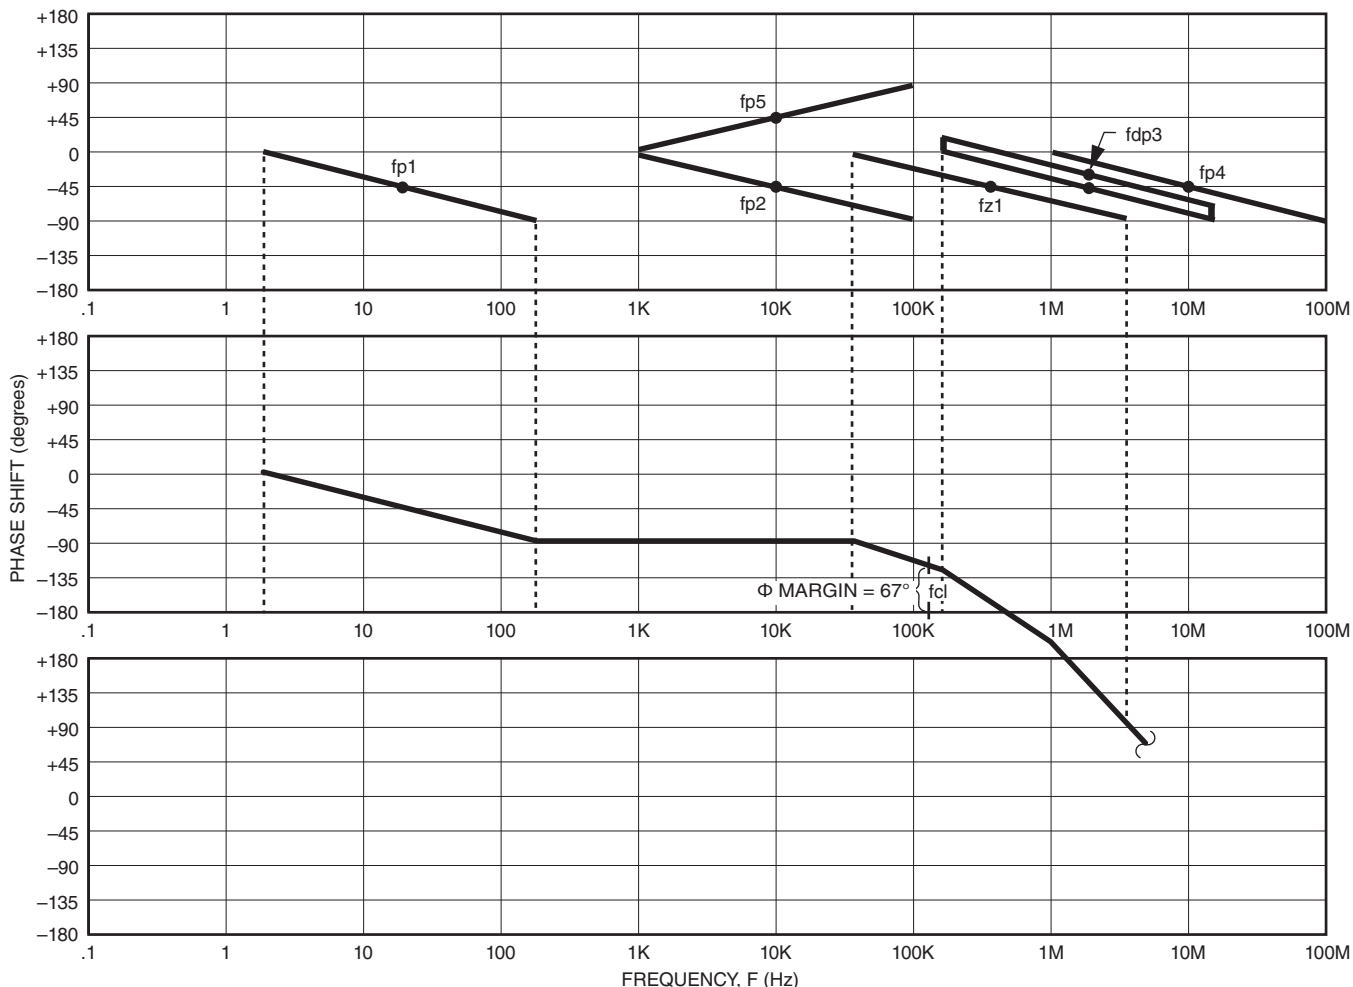

FIGURE 28. FEEDBACK ZERO COMPENSATION FOR CL OPEN LOOP PHASE PLOT FOR STABILITY
**STEP 4:** Plot open loop phase as in Figure 28. We see we have 67 degrees of phase margin and therefore guaranteed stability.